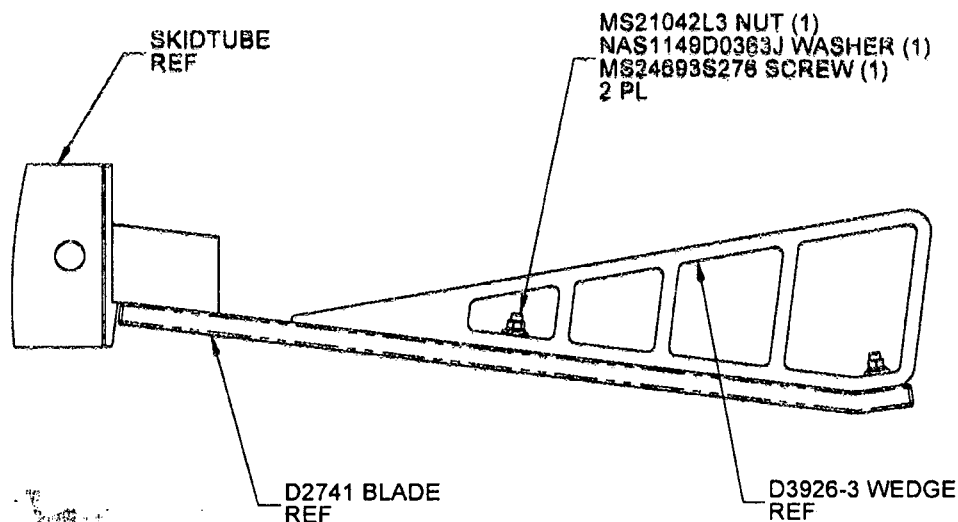

FIGURE 3: D3926-3 WEDGE INSTALLATION
- 8) Install the D3926-3 wedge on each D2741 blade using the hardware shown in Figure 3 Sheet 3